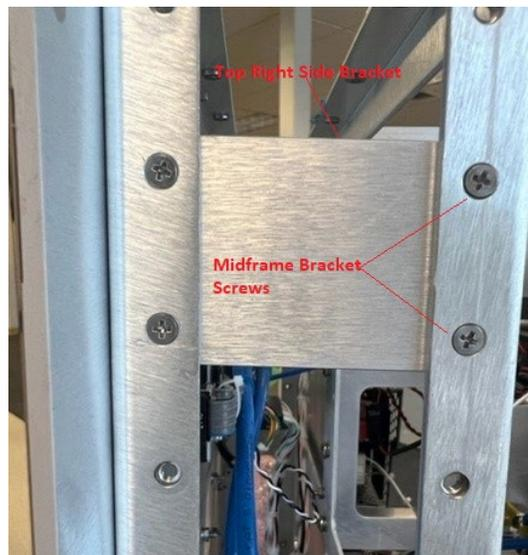

Figure 5
- Carefully remove the two top midframe bracket screws (Figure 5).